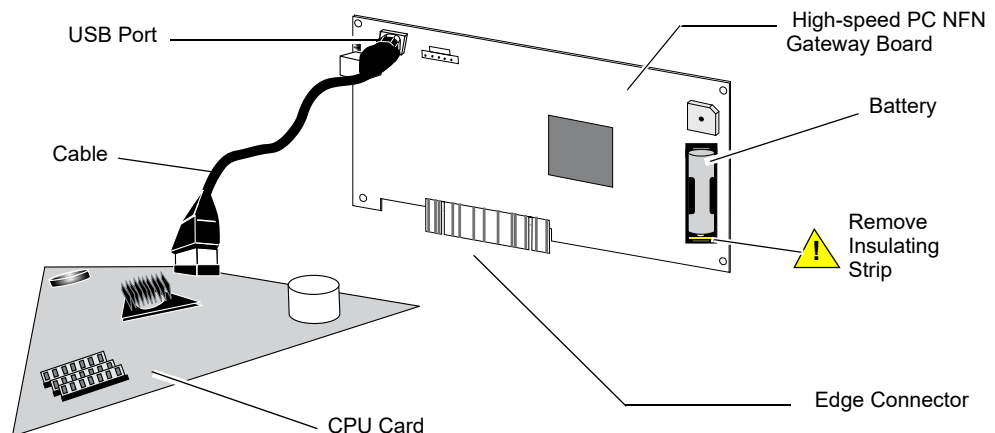

Figure 2.1 Installing the High-speed PC NFN Gateway Board
1. Remove insulation strip from between the battery and the terminal as shown in Figure 2.1.
7. Connect the supplied USB cable to an available USB header on the CPU card of the workstation PC, then to the USB port on the gateway board as shown in Figure 2.1.